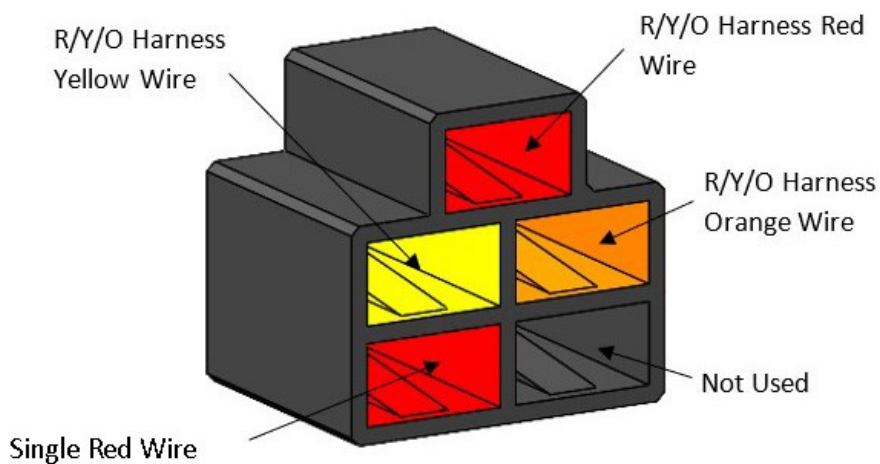

FIGURE 6
20. Locate the 36" wiring harness and ensure the wires are correctly connected to the 5-pin black connector as shown in **FIGURE 6** and the 4-pin white connector as shown in **FIGURE 7**.